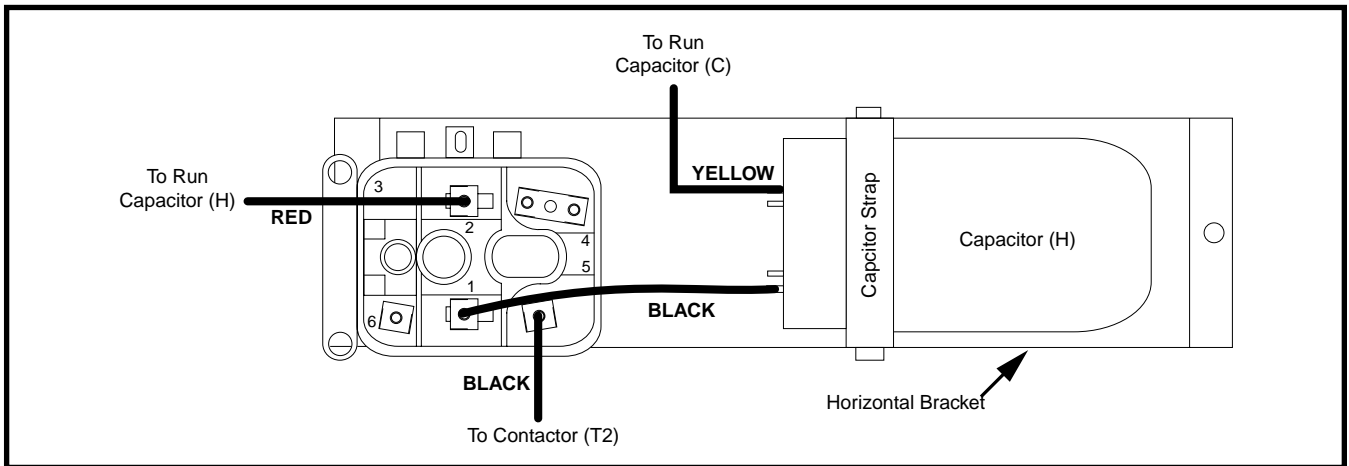

Figure 3. Horizontal Bracket Installation
- For Single Package Gas/Electric Models, use the horizontal bracket as shown in Figure 3.